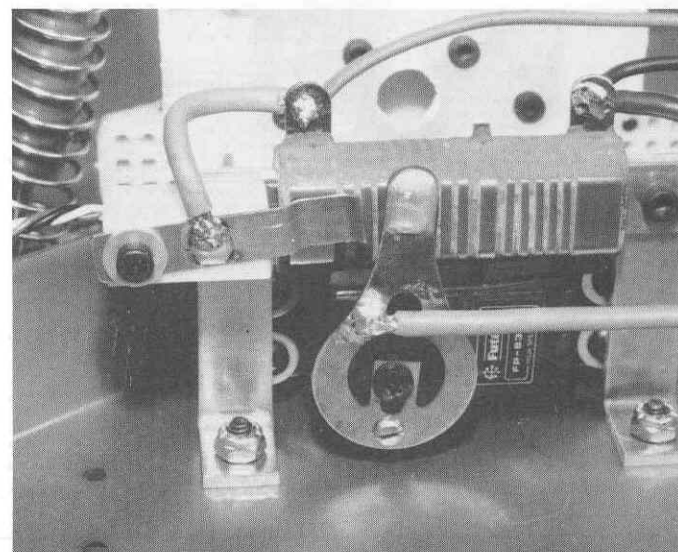

Fig. 176
□ **Fig. 176** This is the position that the wiper arm is in at 1/2 throttle. These are the power bands on the resistor.